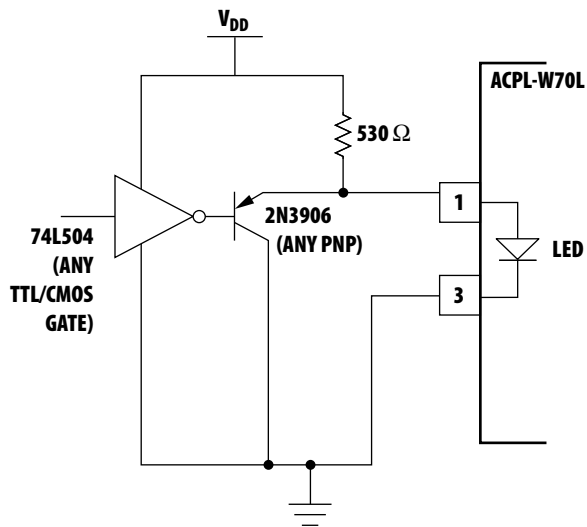

Figure 15. TTL interface circuit for the ACPL-W70L families.
1. Use of drive circuits where current is shunted from the LED in the LED "off" state (as shown in Figures 15 and 16). This is beneficial for good CM_H .
Using any one of the drive circuits in Figures 15-17 with $I_F = 6\text{mA}$ will result in a typical CMR of $10\text{ kV}/\mu\text{s}$ for ACPL-W70L AND ACPL-K73L, as long as the PC board layout practices are followed. Figure 15 shows a circuit which can be used with any totem-pole-output TTL/LSTTL/HCMOS logic gate. The buffer PNP transistor allows the circuit to be used with logic devices which have low current-sinking capability. It also helps maintain the driving-gate power-supply current at a constant level to minimize ground shifting for other devices connected to the input-supply ground.